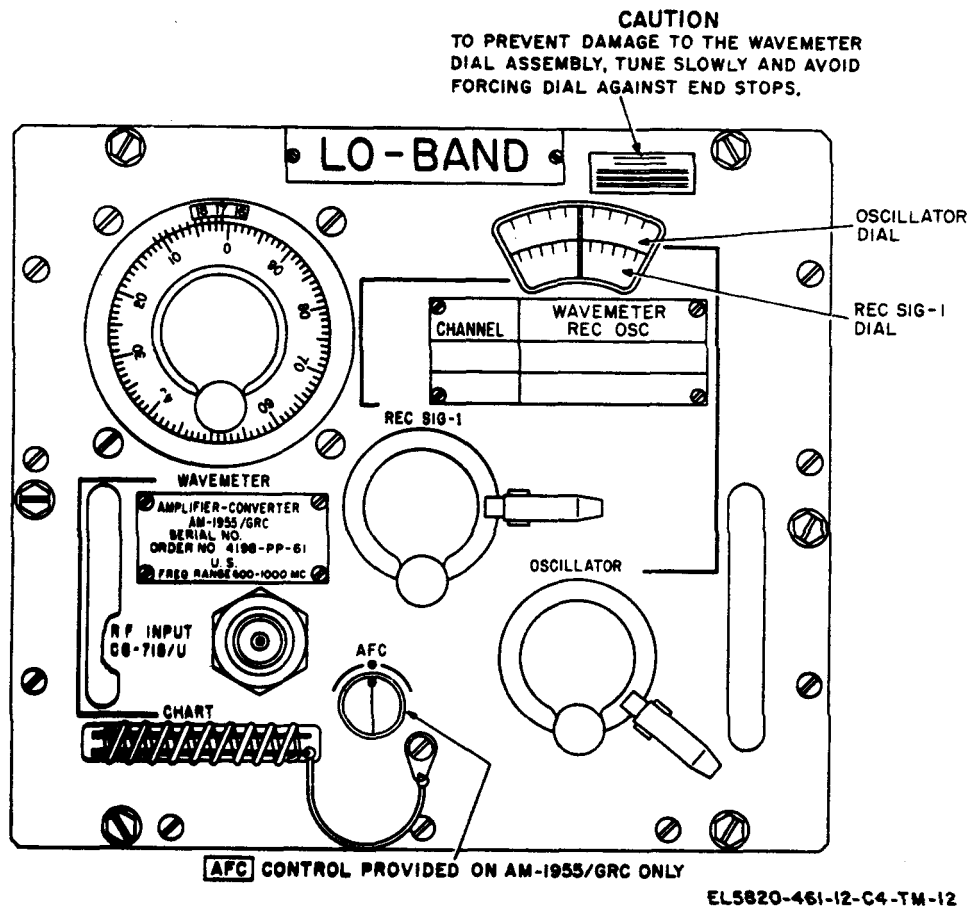

Figure 3-7. Amplifier-Converter AM-1955(*)/GRC,
c. *Amplifier-Converter AM-1955(*)/GRC and Amplifier-Converter AM-1956(*)/GRC* (fig. 3-7). The operating controls and indicators listed in the following chart are common to the AM-1955(*)/GRC and AM-1956(*)/GRC, except where indicated. The AM-1955/GRC is plugged into R-1148(P)/GRC and the AM-1955A/GRC into the R-1331(*) (P)/GRC when the low-band frequencies are to be received, and the AM-1956/GRC is plugged into the R-1148(P)/GRC and the AM-1955A/GRC into the R-1331(*) (P)/GRC when the high-band frequencies are to be received. With the exception of the nameplate and AFC control on the front panel, the AM-1956/GRC is functionally